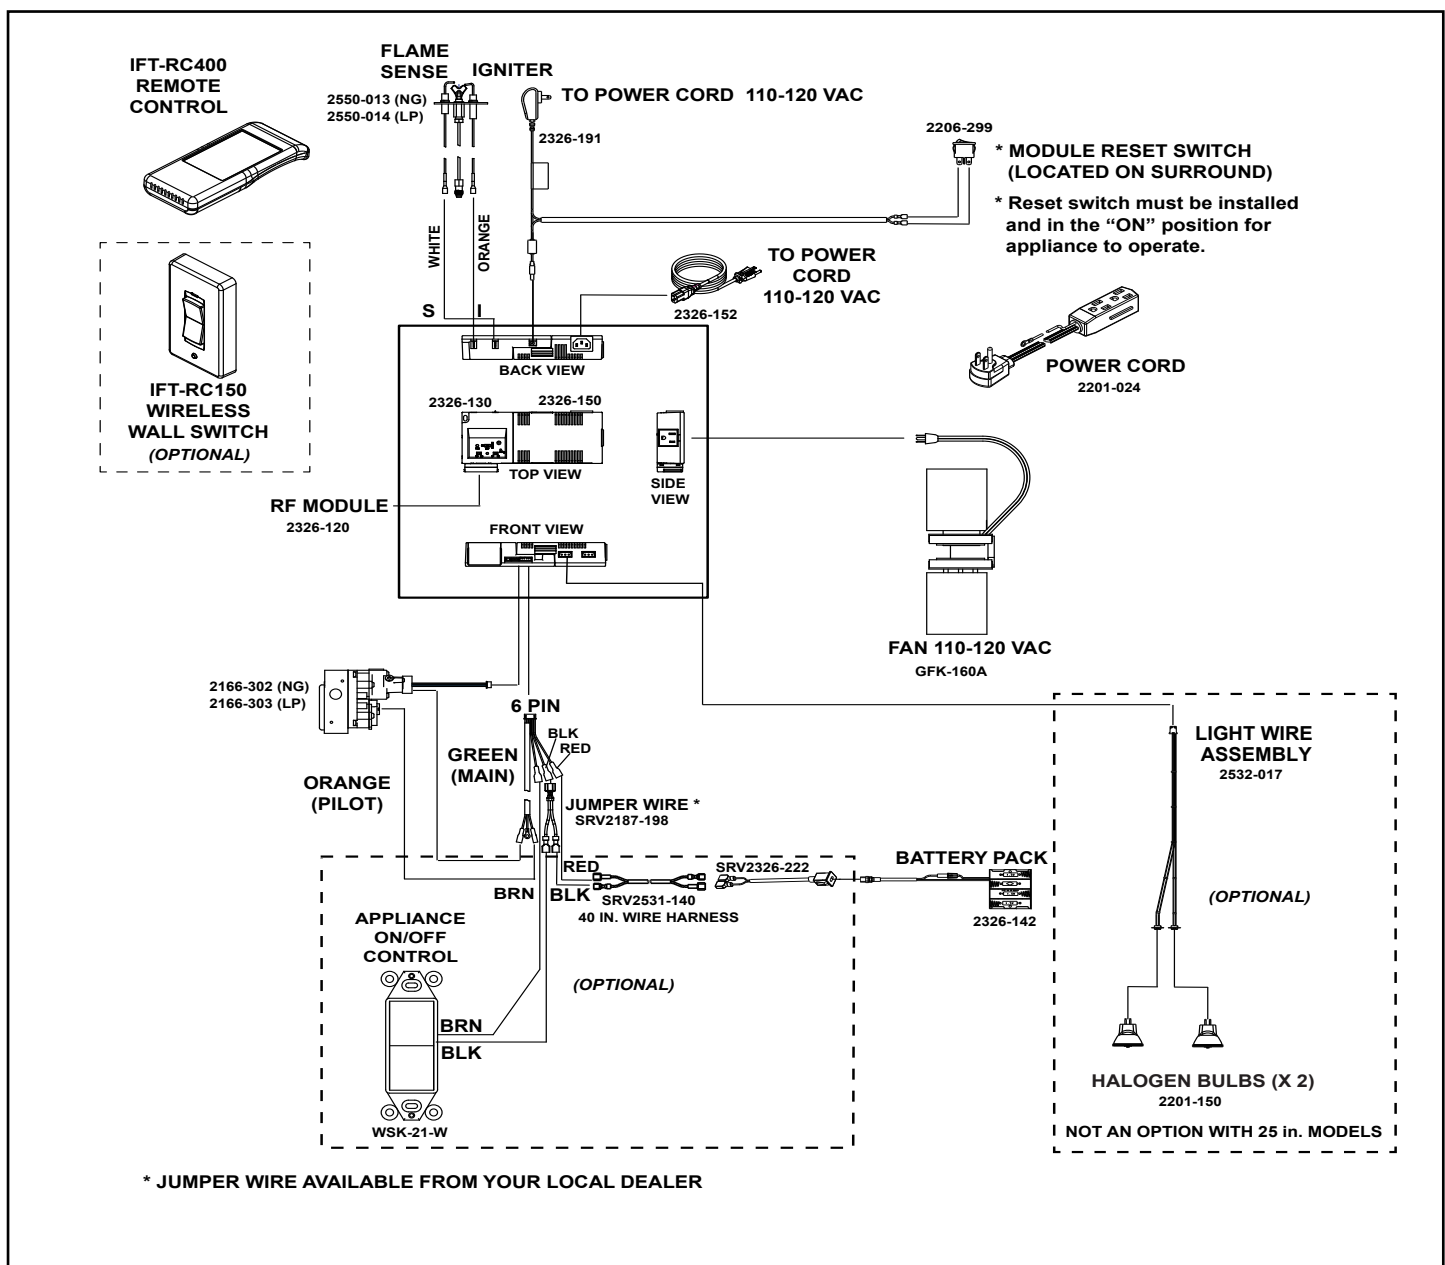

Figure 6.2 IntelliFire Touch Wiring Diagram
- Refer to Figure 6.2, IntelliFire Touch (IPI) Wiring Diagram.
- Service / replace fan. Figure 6.2 shows a wiring diagram.
- Service / install fan. Figure 6.2 shows a wiring diagram.
- Service / replace halogens. Figure 6.2 shows a wiring diagram.